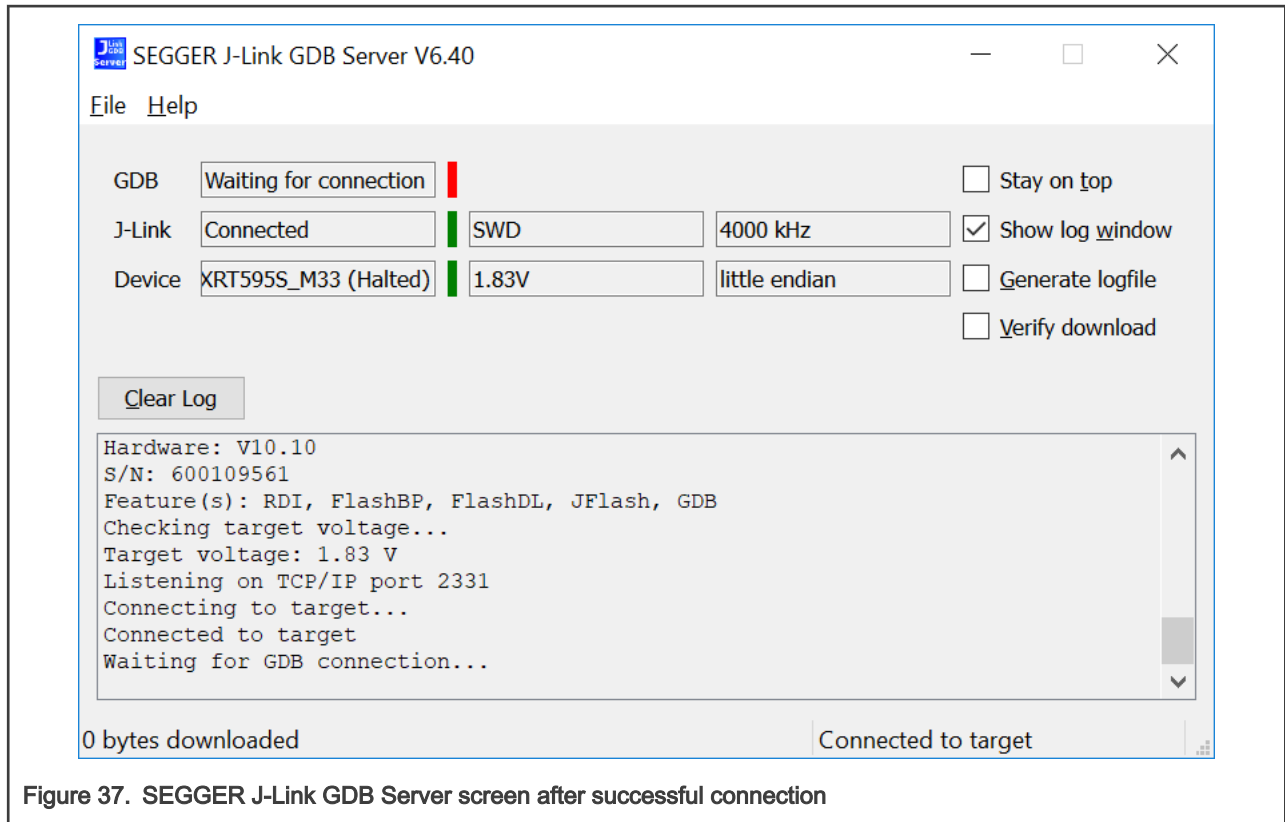

Figure 37. SEGGER J-Link GDB Server screen after successful connection
5. After it is connected, the screen should be as shown in Figure 37.